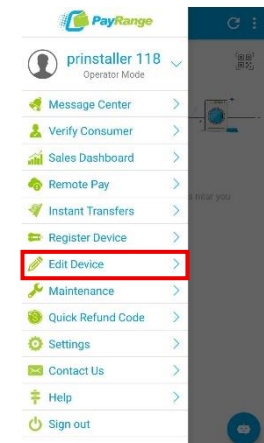

Figure 24
2. Select **Edit Device (Figure 24)**.